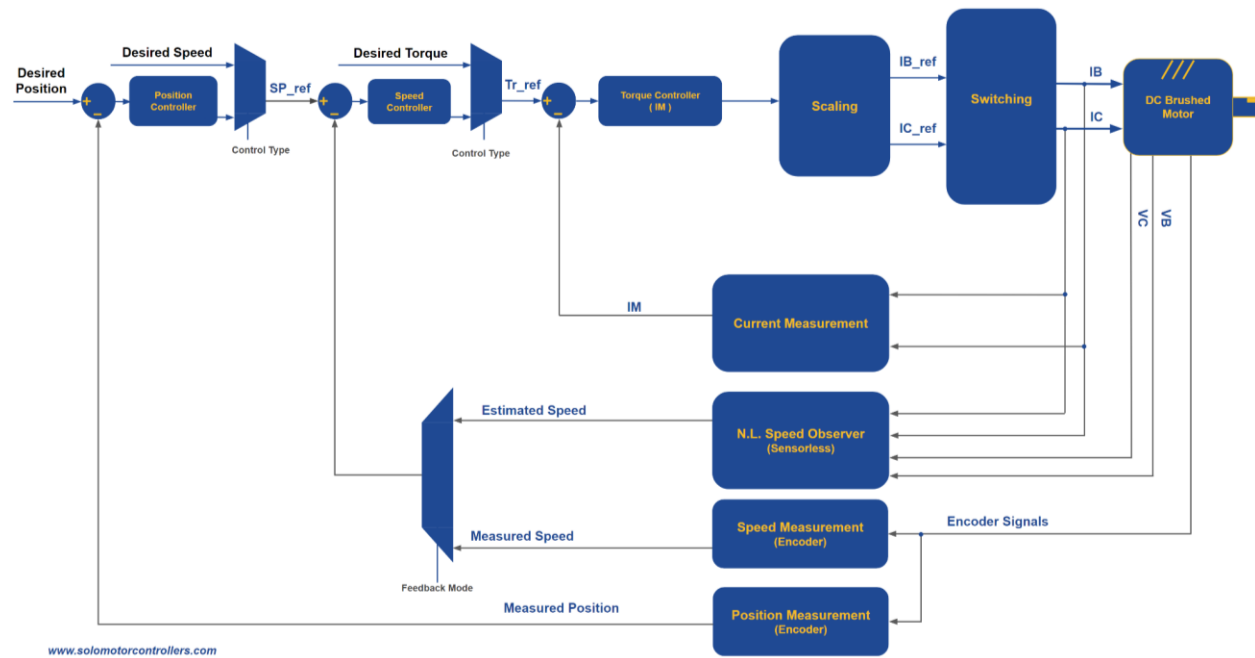

Figure 2 - Control Architecture of SOLO MINI_v2 for DC Brushed Motors
- All The sections are referred to **Figure 2** below
In general we can divide the whole control architecture of SOLO for two different types of Motors, the 3-phase motors that can be seen in Figure 1 and Brushed DC motors that can be seen in Figure 2 below, as can be seen in these figures, the main foundation of the architecture of motor controlling in SOLO is based on four fundamental controllers:
As can be seen in Figure 2, the main architecture of Motor Controlling for DC brushed motors in SOLO follows a very similar pattern to 3-phase Motors Controlling with FOC, however the architecture is generally simple with only one cascade loop of Torque, Speed and Position. Similar to 3-phase motors, for DC brushed Motors, SOLO offers both Sensor-less and Sensor-based controls as well as Servo-Driving in case an Incremental Encoder is attached to the Motor, so the whole control strategy and tunings are identical to the 3-phase motors with minor differences on the processing methods.